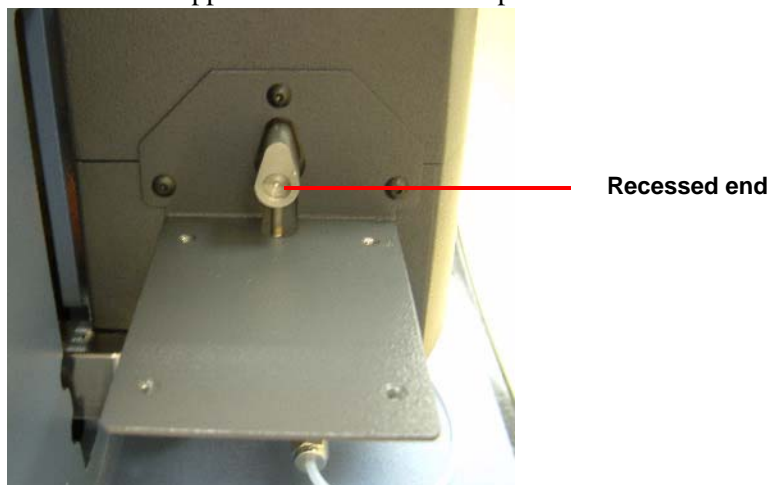

Figure 67
- 1 Insert the transfer line capillary into the 0.6-mm (0.025-inch) opening in the mass spectrometer adapter and push the tube all the way to the end of the adapter. The stainless steel nub should sit inside of the adapter's recessed end (Figure 67).